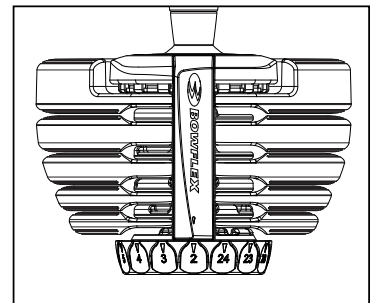

Figure 1
3. The weight increments range from 2 kg to 24 kg (5 to 52.5 lbs) on both adjustment knobs. To properly select a given weight (9 kg [20 lbs] for example), rotate both adjustment knobs until that number (9) is aligned with the arrow located on the outward edge of the Bowflex® nameplate (Fig.1).